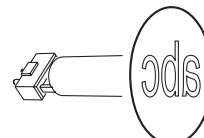
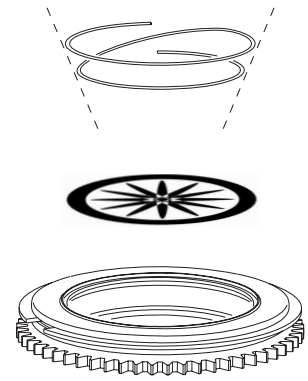

Figure 13. Correct gobo orientation
Figure 16: Rotating goboholder
Most gobos must be installed facing in a certain direction in order to avoid heat damage. The orientations shown in Figure 13 are correct in most cases, but consult your Martin dealer or gobo supplier if you are in any doubt about the orientation of a specific gobo type.
The gobos are held in goboholders by a retention spring (see Figure 16). Note that the retention spring can only be used with gobos maximum 3 mm thick. Thicker gobos can be glued to the holder with a UV adhesive or Loctite 330 Multibond with Activator.
4. Insert the new gobo in the holder with the side that faces towards the lamp facing upwards, towards the spring (see Figure 13 and Figure 16).
5. Insert the spring with the narrow end against the gobo, as shown in Figure 16. To identify the narrow end, press the spring flat: the narrow end is on the inside. Push the end of the spring in under the lip of the holder.